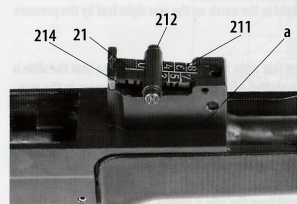

Fig. 9 Rear sight assembly
**Rear sight** (Fig. 9) enables the needed angles of the elevation to be set; the rear sight is fixed in the rear sight base. Rear sight 21 (Fig. 10) consists of rear sight slide 211, rear sight plunger 212 with spring 213 and rear sight feather 214.